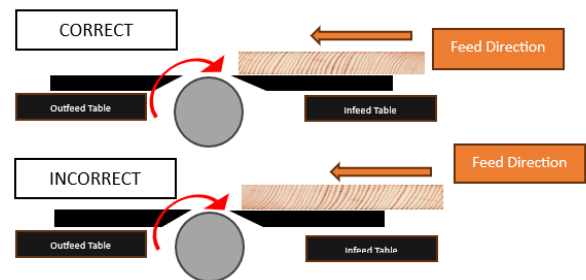

Figure 24.
6. Loosen the four Cap Nuts (#201, FIG. 24) located on the outside rear of the machine to release the tension on the motor. Adjust the motor position upwards to loosen the belt or downwards to increase tension.